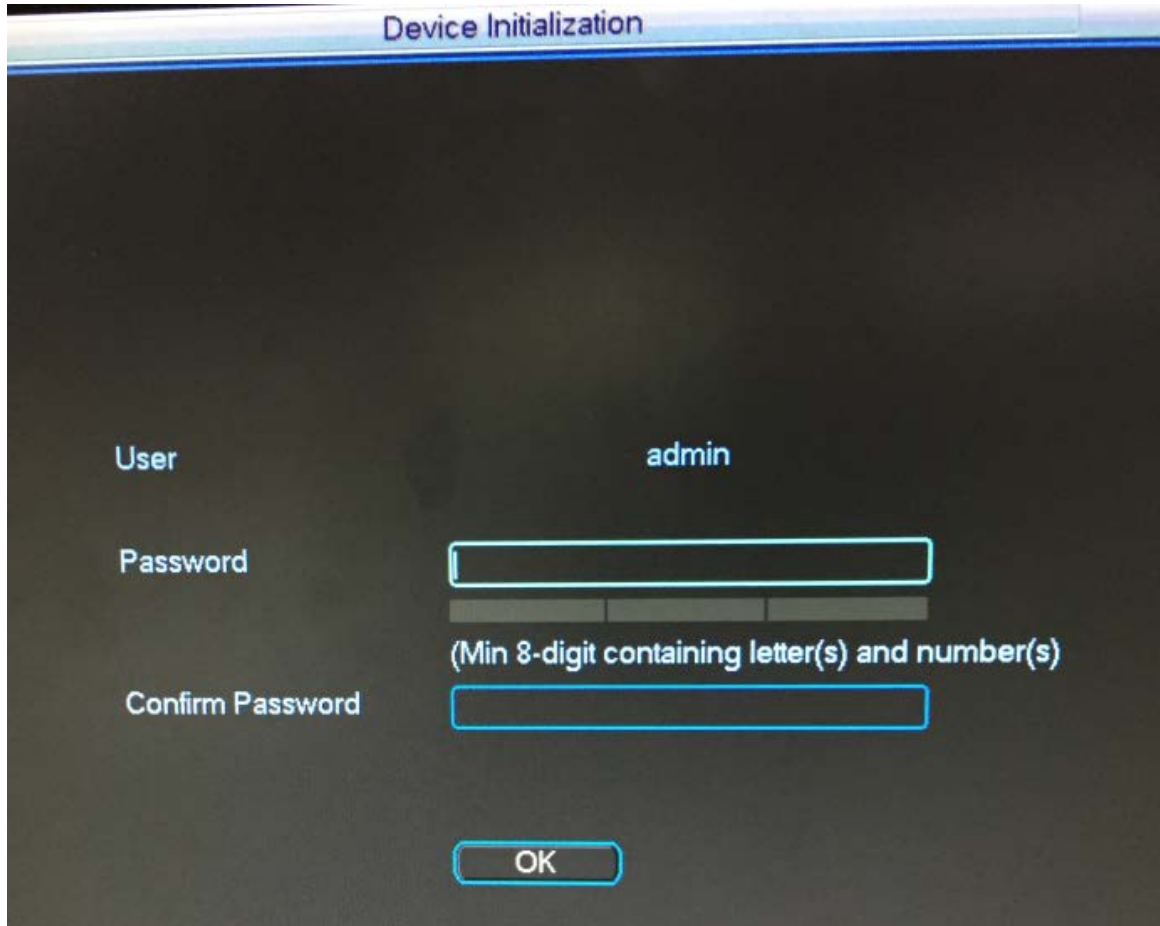

Figure 4-1
Step 1 The system displays “Device Initialization” interface, as shown in Figure 4-1.